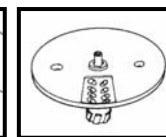

Fig. 9
4. Fit the processor bowl and spindle as detailed on the page 3. (Fig. 9)